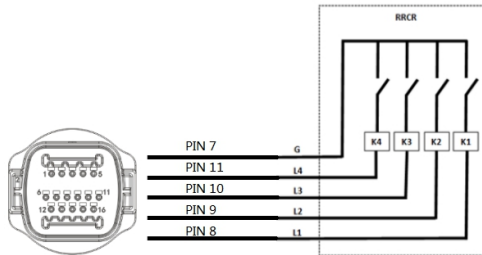

Fig. 4-14 Inverter – RRCR Connection
<ul style="list-style-type: none"> For the Single-phase limit Setting, the current sensor must be properly connected to the L line on the meter. The meter wiring is shown in Figure 4-14. In addition, refer to 6. 3. 2(2) for feed-in limit Settings. If communication with the smart meter is interrupted, the inverter limits its output power to the set power limit value.